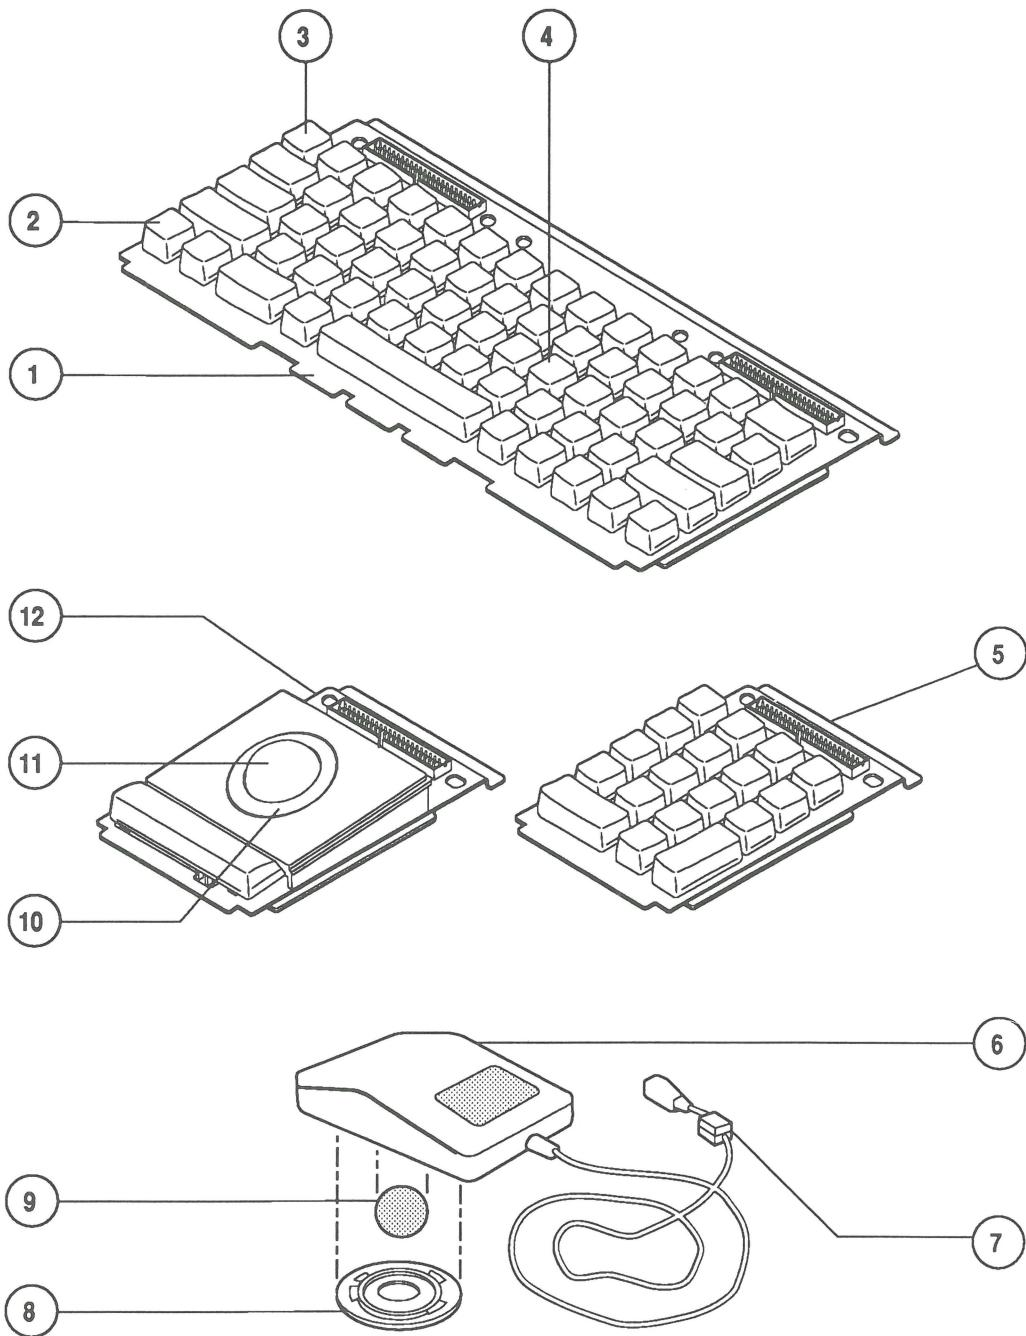

FIGURE 4
- IPL.9 Input Devices (Figure 4)
INPUT DEVICES (Figure 4)